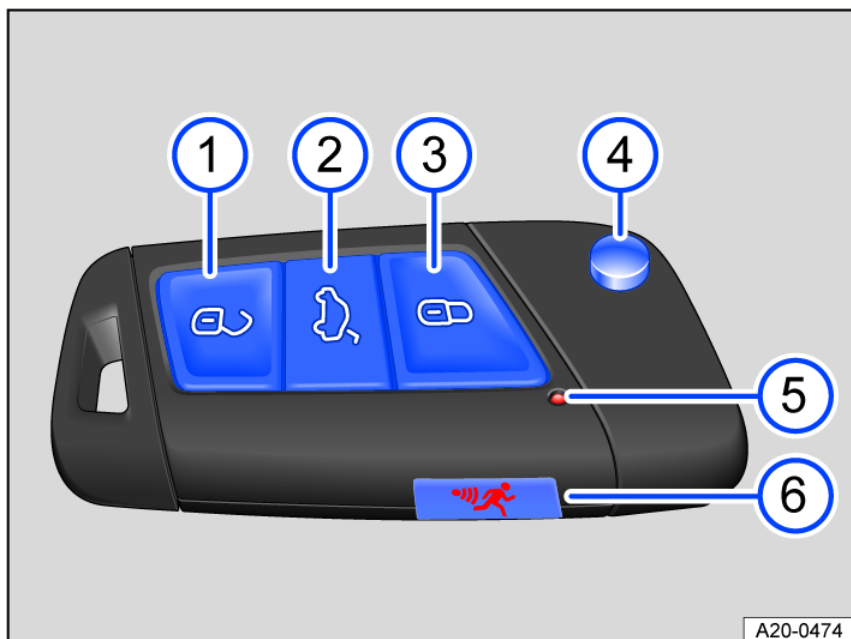
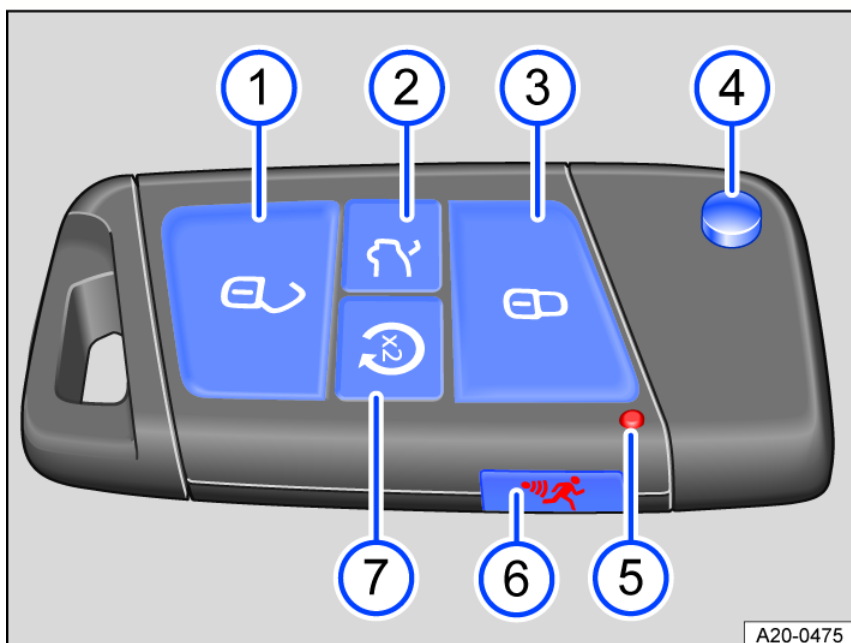

Fig. 40 Vehicle key.
Fig. 41 Vehicle key with remote start relay function.
- To carry out the remote start $\Rightarrow$ *Remote start function*, press button  once *fig. 41*  and press button  twice *fig. 40* .